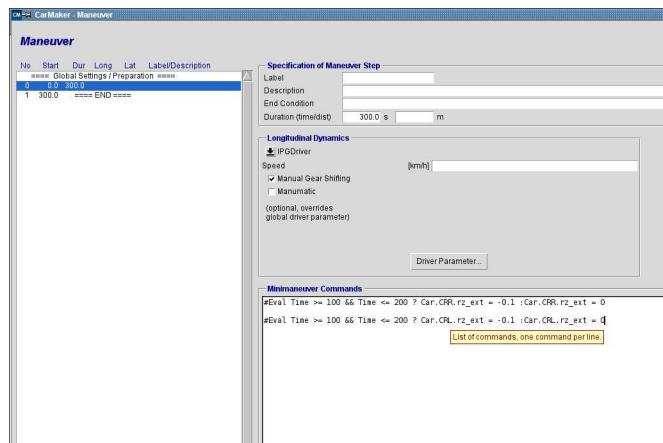

Figure 3.36: Maneuver dialog
- In Figure 3.36: there are two commented lines in the minimaneuver commands section. Those real time expressions (RTE) are not active (i.e. "#") right now. Before we start using RTE we should take a short look at the Direct Variable Access window.
In Figure 3.36: we already saw the commented RTE. In the minimaneuver dialog we write: